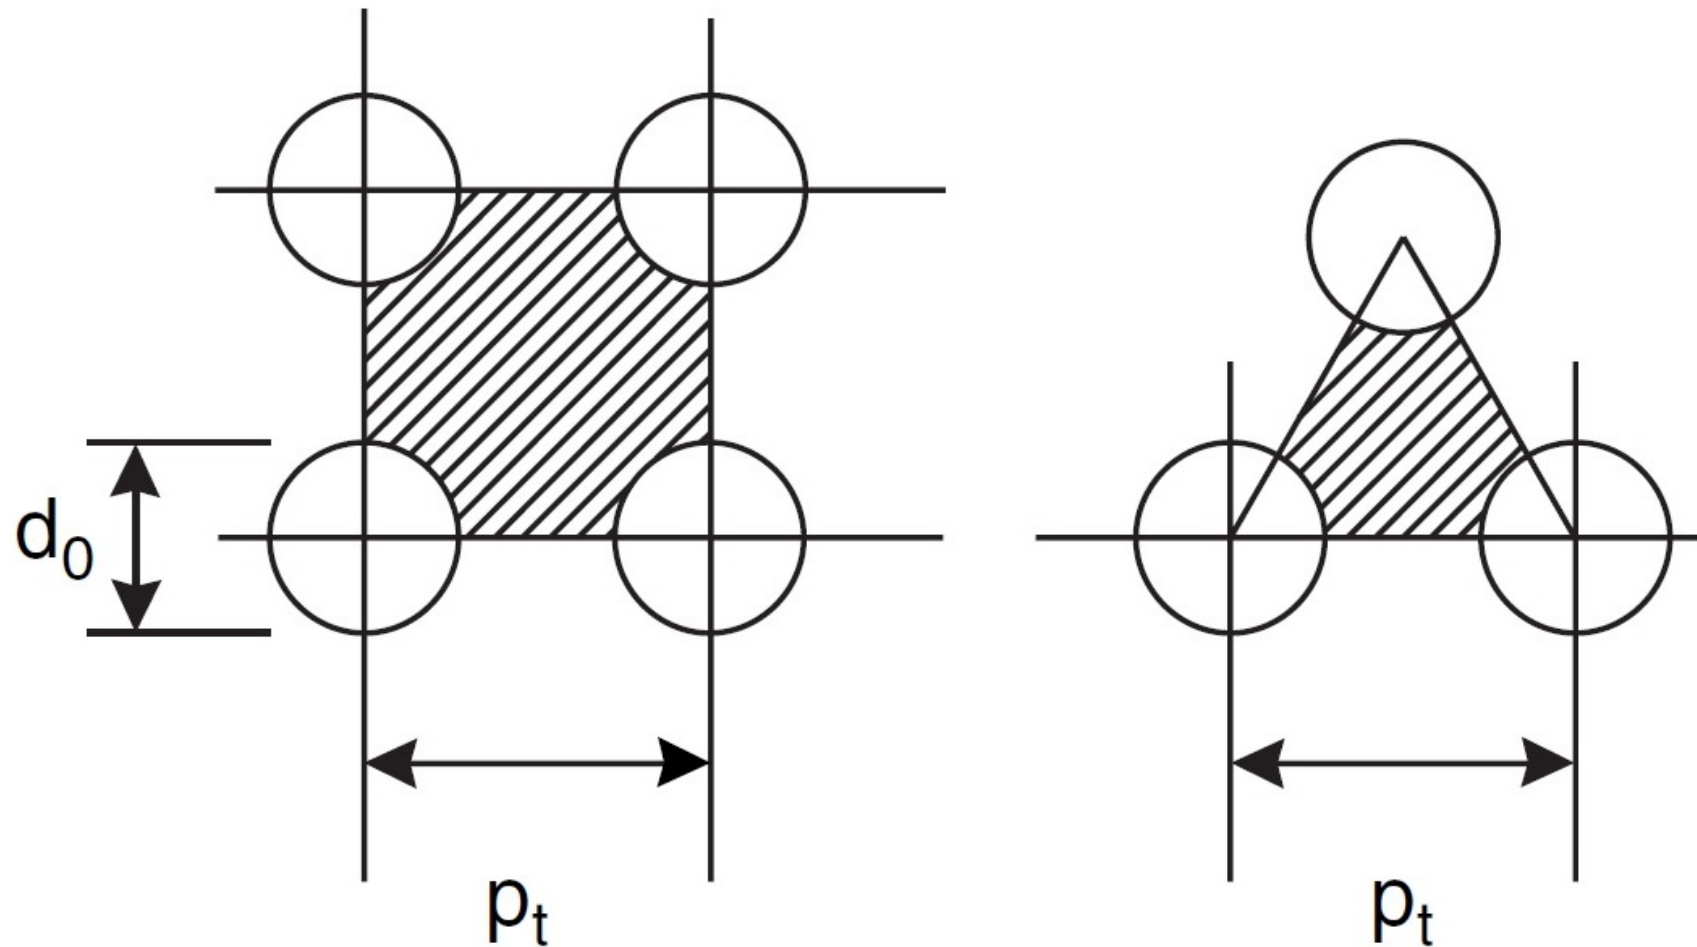

Fig. 7: Equivalent diameter, cross-sectional areas and wetted perimeters.
- Where p_t = tube pitch (distance between the centers of two tubes, Fig. 7).
- Shell equivalent diameter (hydraulic diameter): calculate the shell-side equivalent diameter, see Fig. 7. For an equilateral triangular pitch arrangement: